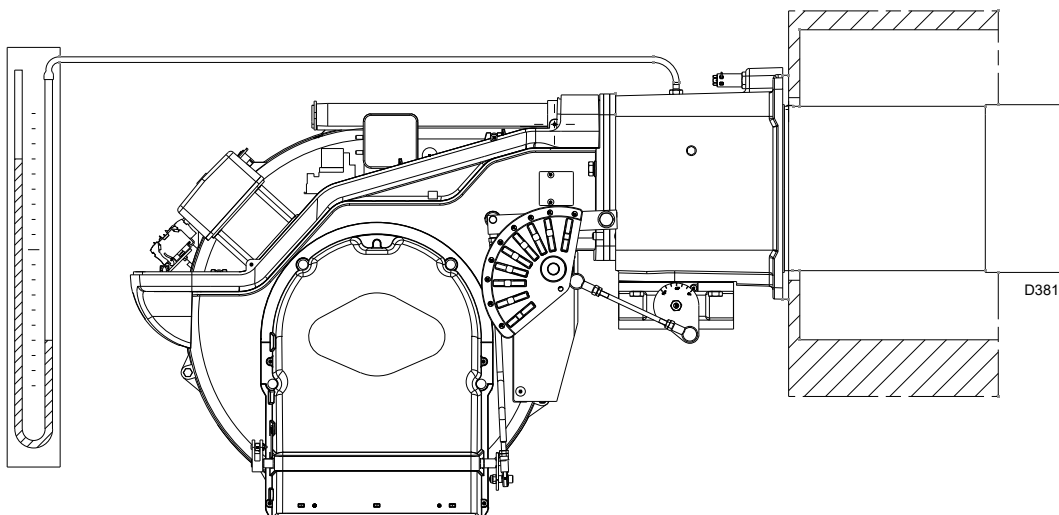

Fig. 24
- Fit a U-type pressure gauge (Fig. 24) to the gas pressure test point on the pipe coupling. It is used to calculate approximate MAX burner output using the Tab. J on page 23.
The arrival of gas to the sleeve is indicated by the U-type pressure gauge (Fig. 24 on page 27).